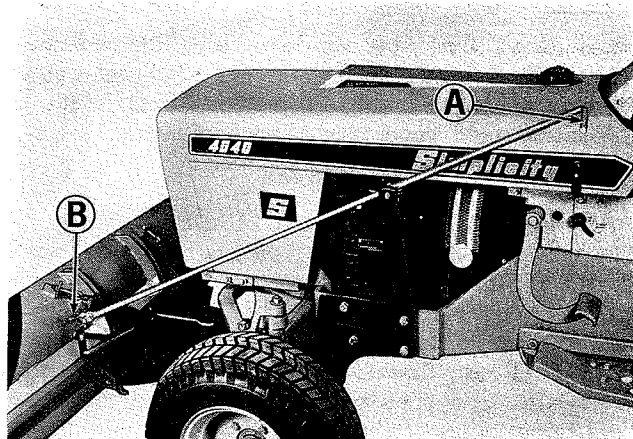
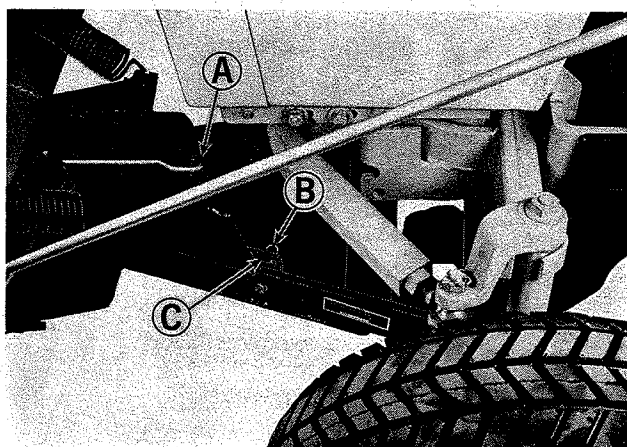

Figure 5. Angle control arm installed.
Figure 8. Hitch seen from the right side.
4. See figure 5. Attach the control arm to the snow plow and dozer blade as shown so the handle portion (A) is facing outward. Use a spring clip (B) to keep the control arm in place.
5. See figure 5. Disconnect the control arm from the snow plow and dozer blade by removing the spring clip (B).
The Simplicity snow plow and dozer blade can be operated at any of five angular positions. See figure 8. Lock (A) is shown in the center notch which holds the blade perpendicular to the tractor frame. If the blade is locked in either of the two notches to the right of lock (A) the blade will be angled 15° or 30° to the right. The notches to the left of lock (A) can be used to angle the blade 15° or 30° to the left. The blade angles can be changed from the tractor seat by using the control arm (Figure 5, item A). Raise the snow plow and dozer blade so it is not resting on the ground surface. Use your left hand to grasp the control handle at (A) and rotate the handle clockwise. While holding the control handle clockwise, push it forward to angle the blade to the right, or pull it to the rear to angle the blade to the left. Allow the control arm to rotate counter-clockwise and move it slightly forward or back until the locking arm (Figure 8, item A) locks in the desired notch.
1. See figure 8. Remove spring clip (B) and remove rod assembly (C) from its storage location.